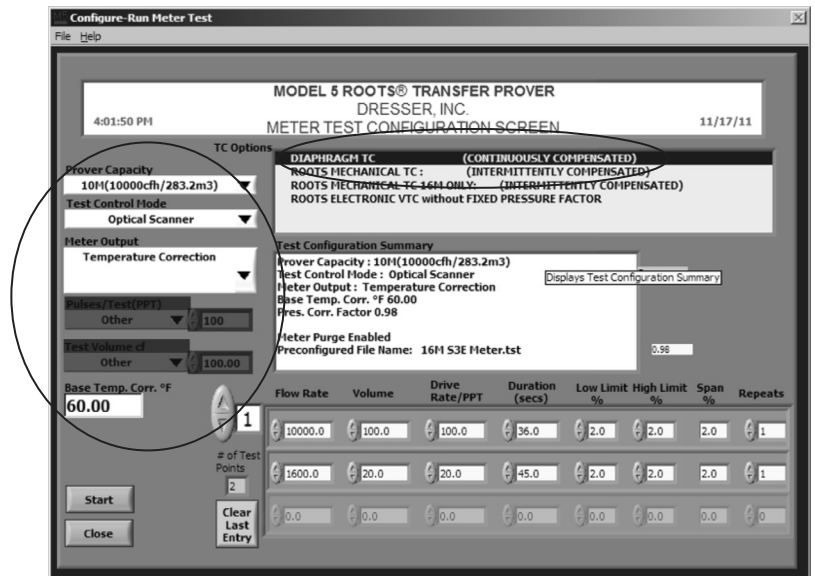

Figure 9 - Prover Configurations screen for Model 5 Prover software
The Model 5 Prover software must be set up as circled on the left side of the screen shot as shown in Figure 9. The TC options box must also be set for Diaphragm TC for all meter sizes, as circled in Figure 9. For reference, the values for the prover configuration are explained in Section 6.
- Flow Rate: To add additional test points, enter the desired flow rate in the next available box in the "Flow Rate" column. Figure 9 shows a value of "1600" representing 10% of flow for a 16M meter.
- Volume: Enter the desired test volume. Suggested values are provided in Table 1. A value of "20" is shown in Figure 9 representing the recommended test volume for testing a 16M meter at 10% of maximum flow rate